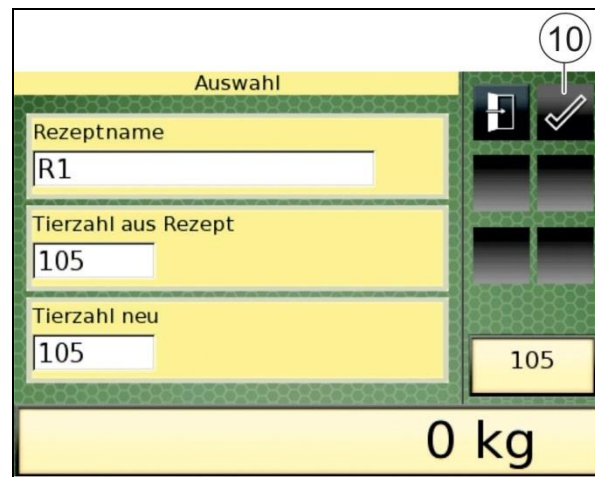
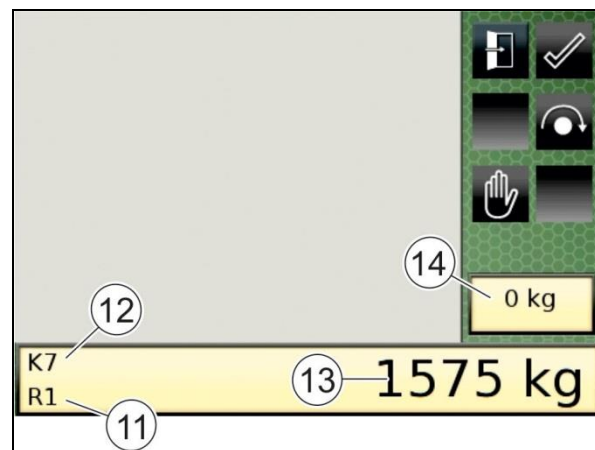

Fig. 204
Fig. 205
- Instead of the camera picture, the terminal displays an overview of the selected recipe (Fig. 204) including:
- 7. Press the "Confirm" key (10) to confirm your entry.
- The charging mode is started. The "Charging mode" display (Fig. 205) appears.